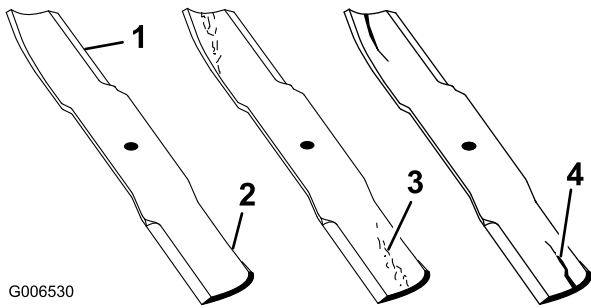

Figure 40
1. Inspect the cutting edges (Figure 40).
2. Inspect the blades, especially the curved area (Figure 40).
**Note:** If you notice any damage, wear, or a slot forming in this area (item 3 in Figure 40), immediately install a new blade.